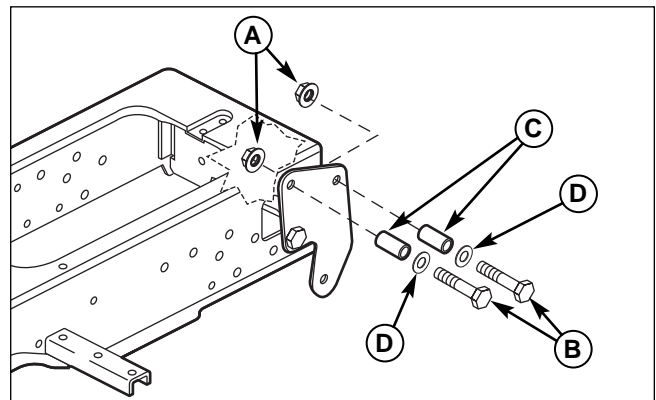

Figure 2. Install Rear Spacers
2. Install the rear spacers (C, Figure 2). Secure with two 1/2-13 x 2-1/2 capscrews (E), washers (D), spacers (C), and 1/2-13 nylock nuts (A) per side.